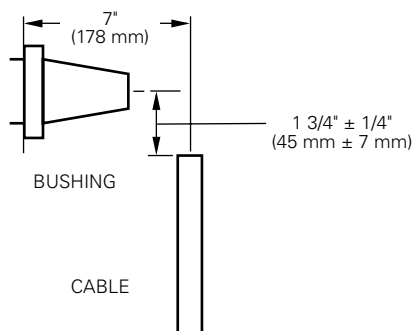

Figure 2. Line illustration for cable training.
- Cut cable 1 3/4" (45 mm) from centerline of bushing. (Refer to Figure 2.)